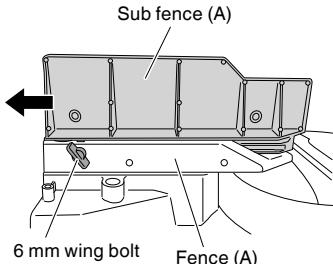

Fig. 12
When right angle cutting, loosen the 6 mm wing bolt, then slide the sub fence (A) outward and remove it, as shown in Fig. 12.